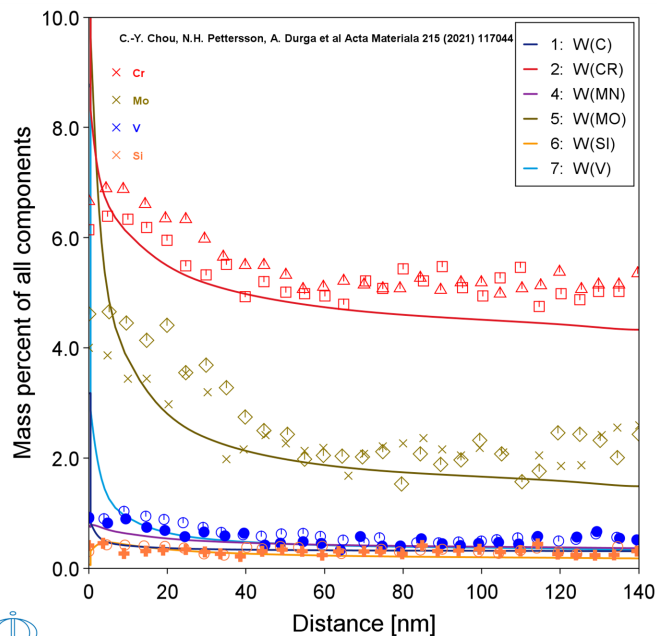

Figure 102: The simulated segregation profile with overlaid experimental STEM-EDS line scans from C.-Y. Chou et al. [2021Cho].
The calculated segregation profiles are finally compared with the STEM-EDS line scans as shown in Figure 102.
- **Plot results:** After completing the set up and performing the calculation, to view the matching name of the node on tab(s) in the **Visualizations** window, click a **Plot Renderer** node in the **Project** window or click the tabs individually in the **Visualizations** window. See Figure 102.